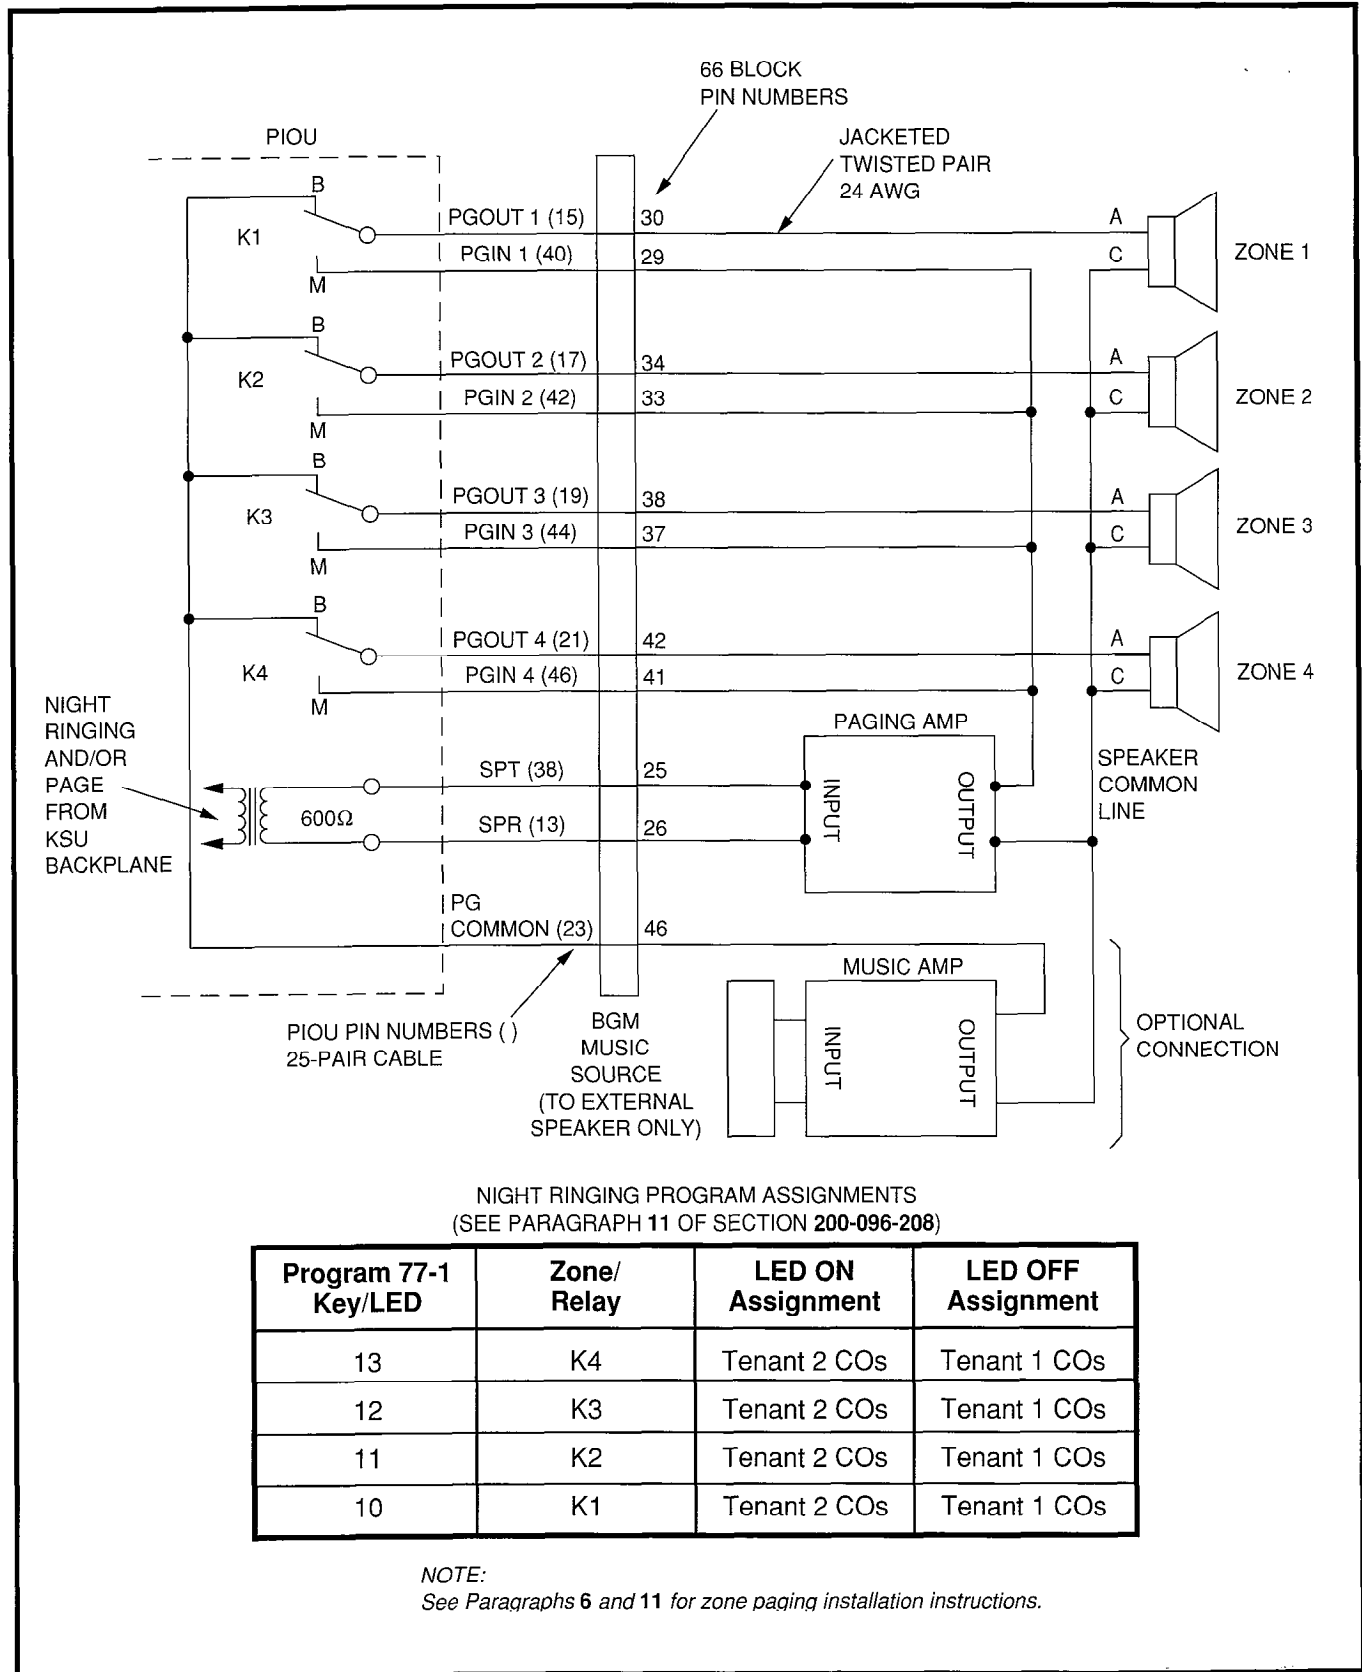

FIGURE 8-15—PIU ZONE, PAGE/BGM/NIGHT RING (SEPARATE AMPLIFIERS)
1. See Paragraph 6 and Figure 8-15 for PIOU zone paging installation instructions.